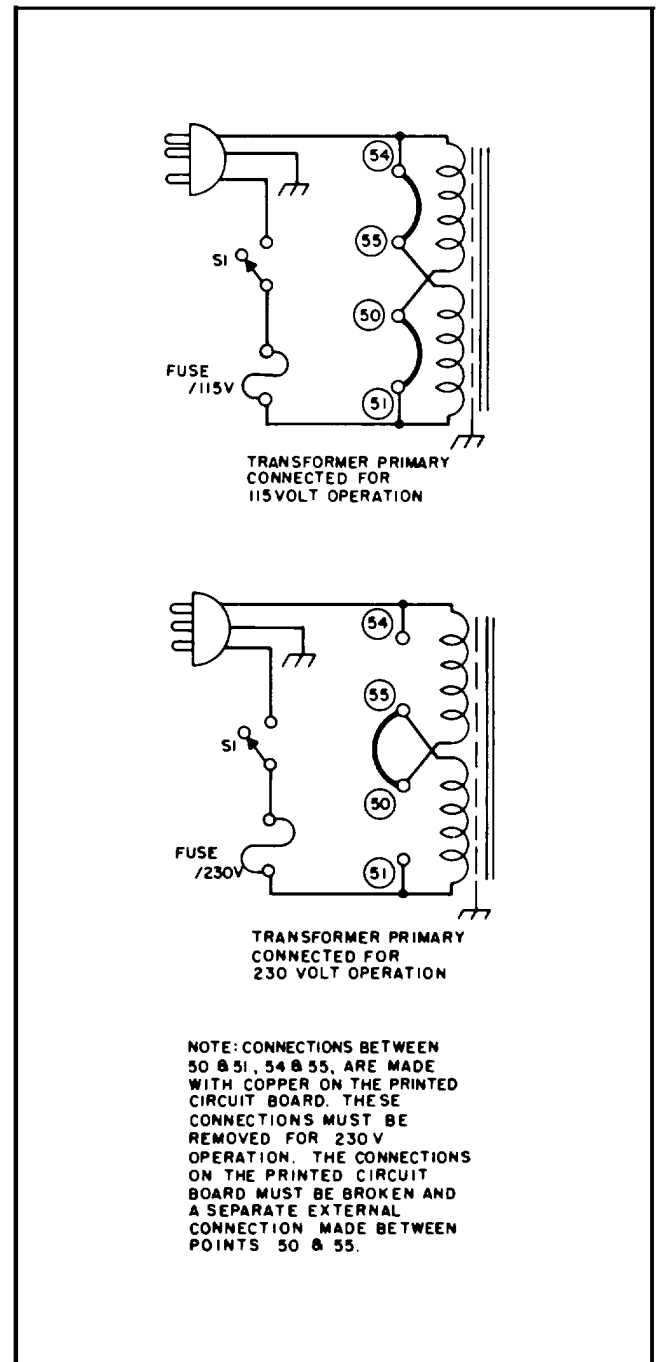

Figure 2-4. Primary Connections
b. Break the copper between 54 and 55 and also between 50 and 51 on the printed circuit board. The se are shown in Figure 2-4, and are labeled on copper side of printed circuit board.